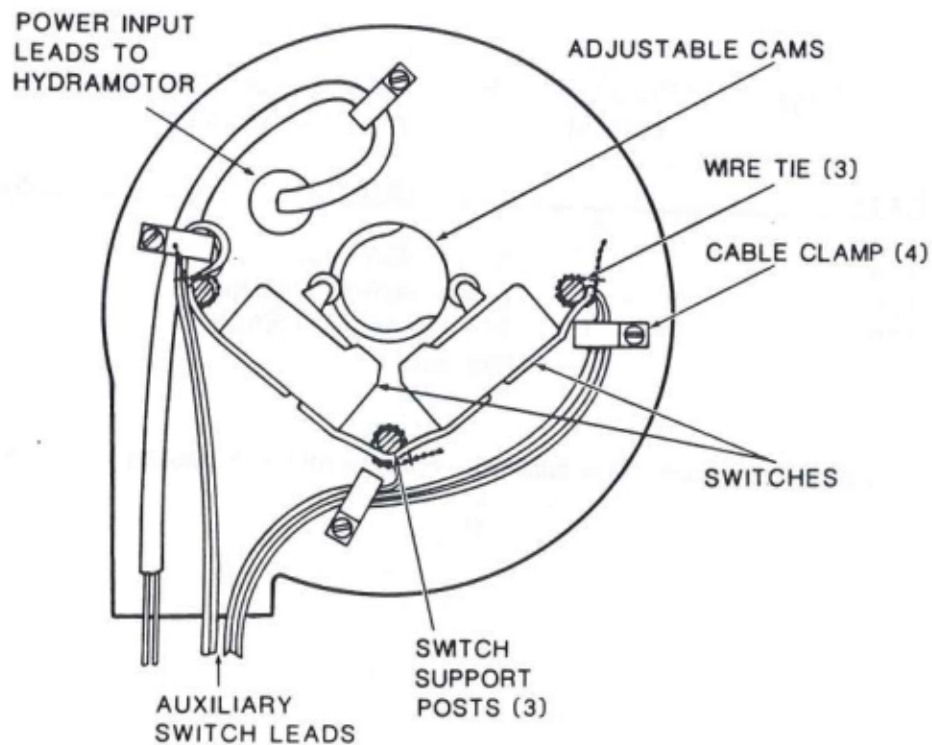

Figure 7-8. Auxiliary Switch Box Assembly Wiring
The auxiliary switches are cam operated to open or close control circuits. The cams revolve on a drum connected by a linkage assembly to the shaft. By positioning the cams on the drum, each switch can be made to actuate at any chosen point of Hydramotor shaft travel. Refer to Figure 7-8 for Auxiliary Switch Box Assembly Wiring.
- 2). Disconnect the Hydramotor power input leads (see Figure 7-8).